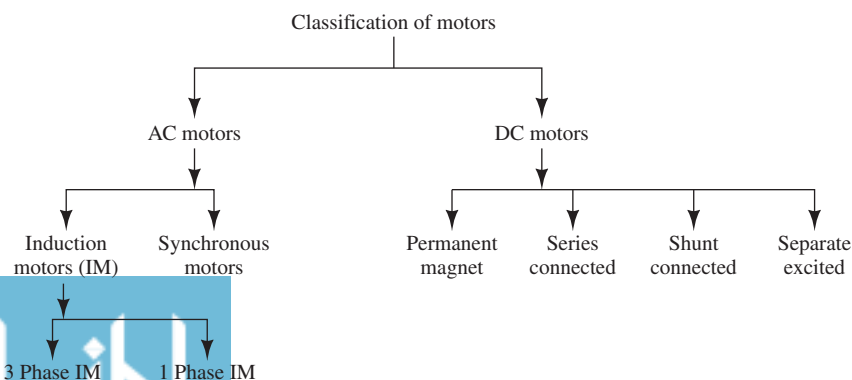

FIGURE 13.1
Now that you are familiar with various features of electric machines, we can investigate the governing principles of motors and generators. Motors are classified into two main categories: *alternating current (AC) motors* and *direct current (DC) motors*. AC and DC designations refer to the type of current supply required for the motor to operate. The tree diagram shown in Figure 13.1 depicts
the broad classifications of motors. The next sections of this chapter explain the different classes of motors revealed in Figure 13.1.
As summarized in Figure 13.1, DC motors are divided into four main categories: (1) shunt-connected, (2) series-connected, (3) permanent magnet, and (4) separately excited motors. This section examines the equations that maintain the relationship of the voltage across armature, applied torque, generated power, and its angular speed (see Section 13.3.1). You will learn to analyze the characteristics of DC motors in other sections.